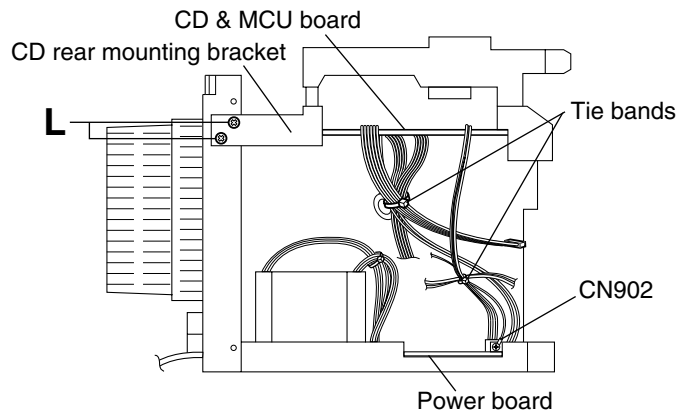

Fig.14
2. From the left side of the main body, remove the tie bands bundling the wires. (See Fig.14.)
3. Disconnect the wire from the connector CN902 on the power board. (See Fig.14.)
4. From the left and right sides of the main body, remove the four screws **L** retaining the CD rear mounting bracket. (See Figs.14 and 15.)